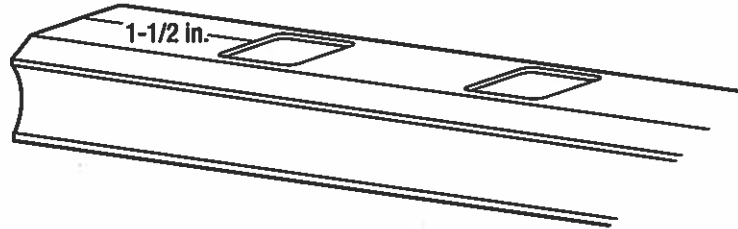

Fig. 3
- Transfer the measurement to the top rail, making sure that the distance from the end of the rail to the first baluster slot is equal on both ends of the rail. The minimum distance from a post to first baluster slot is 1-1/2 in. for clearance from the brackets. (See Fig. 3)